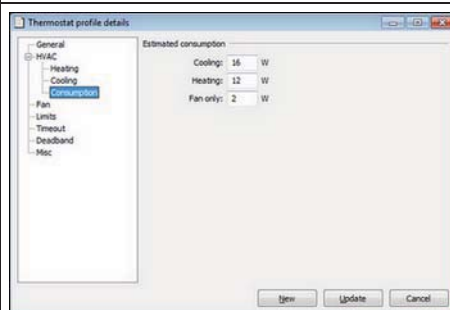

Figure 55
3. The **Consumption** alternative is only applicable if the *Integrated Room Control dashboard* is used. If this is the case, enter applicable values for the three cases 'Cooling', 'Heating' and 'Fan only'; see examples in Figure 55.